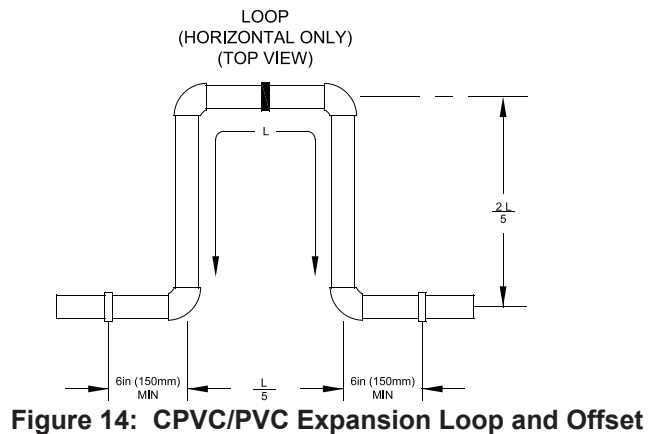

Figure 14: CPVC/PVC Expansion Loop and Offset
- b. Design the vent system to allow 3/8 in. (9.5 mm) of thermal expansion per 10 ft. (3.0 m) of CPVC/PVC pipe. Runs of 20 ft. (6.1 m) or longer that are restrained at both ends must use an offset or expansion loop. Refer to Figure 14 and Table 15.